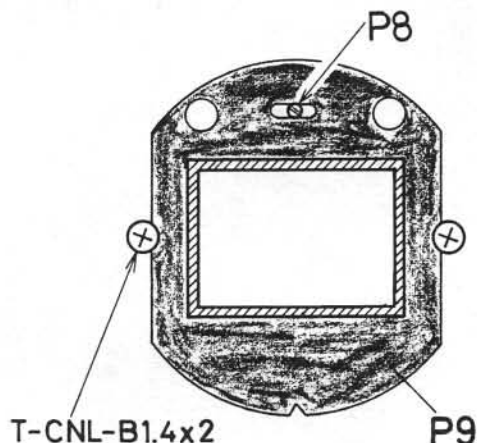

Fig. 36
32-5 Make sure the Flare prevention frame is installed as shown in Fig. 36.
3. Adjust the Flare prevention frame (P9) by turning the Adjusting shaft (P8) as shown in Fig. 36.
6. Make sure that the position of P9 is adjusted as shown in Fig. 36.